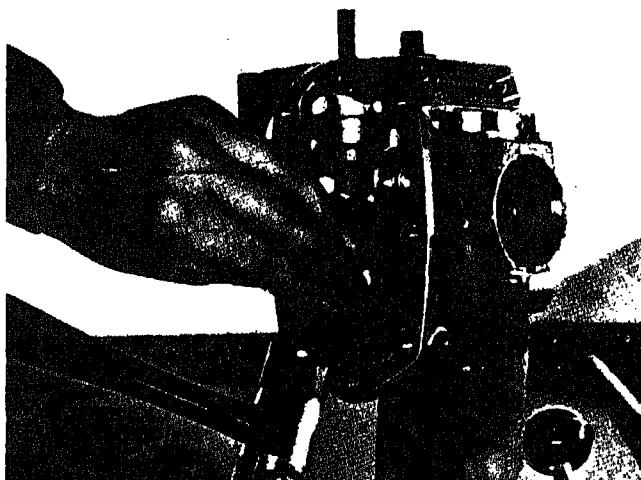

Fig. 501-20 Removing tachometer drive assembly
3. Carefully drive tachometer drive assembly from main housing, using a brass punch and hammer. Fig. 501-20.